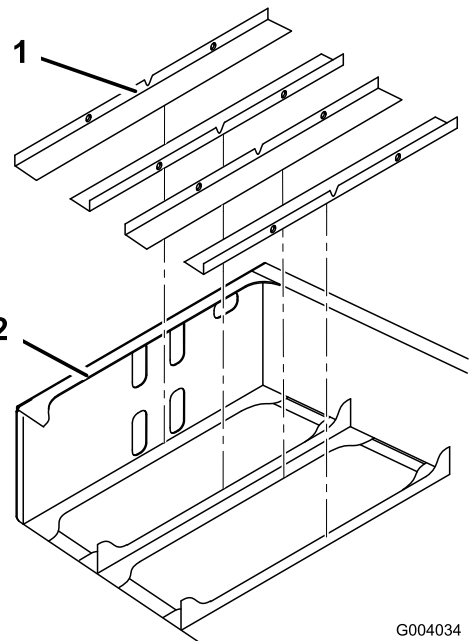

Figure 4
2. Install the battery-tray pads into the rear-frame assembly (Figure 4).